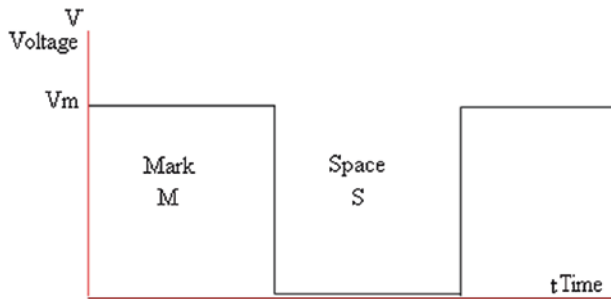

Figure 4-1. A typical square wave
Pulse width modulation (PWM) is a very useful method of varying a DC voltage supply. To appreciate what PWM is, and what pulse width you are modulating, it's useful to look at a typical DC square wave. This is shown in Figure 4-1.
The wave form, shown in Figure 4-1, is DC as the voltage never changes polarity. In this case, it is always positive. The wave form has what is termed a 50/50 duty cycle since the up time, or on time, named “mark” time, is the same as the down time, or off time, named “space” time. The mark time (M), or up time, is the pulse that is referred to in PWM. The width is the length of time that the mark, or pulse, extends for. The modulation in PWM refers to the fact that you vary the length of time that the mark extends for (i.e. PWM). Note that since the total time (i.e. the mark time plus the space time, known as the periodic time, T) does not vary, then as you increase the mark time you must decrease the space time and visa-versa.